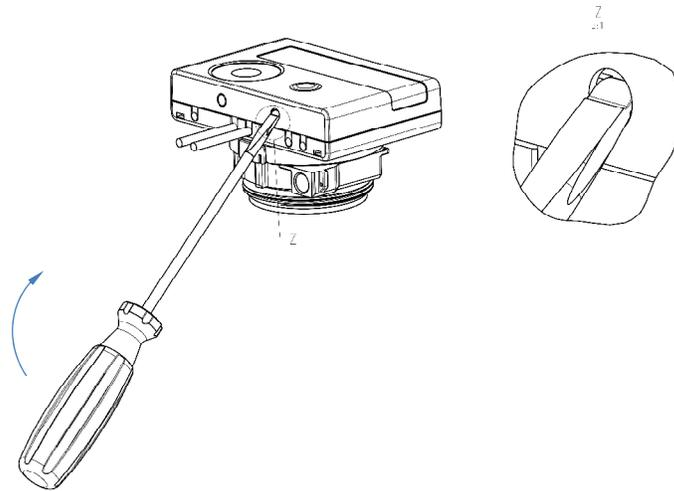

Figure 11: Lift handle
2. Then insert the screwdriver into one of the two openings at an angle of approximately 45° and carefully lift the handle up to approximately 90° (see Figure 11). The upper housing piece of the calculator is then no longer latched on this side.